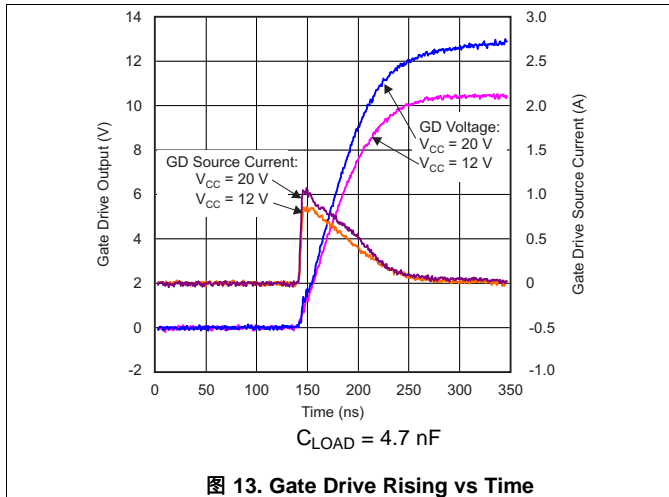
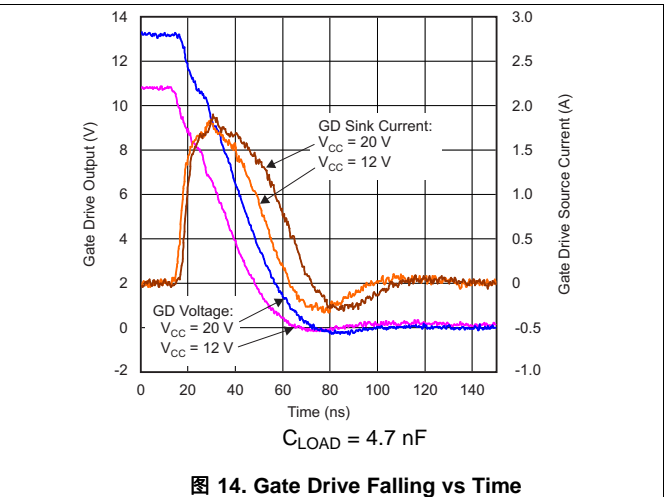
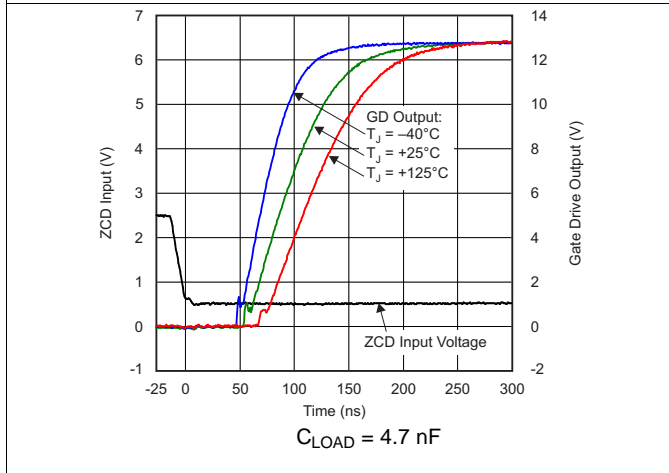
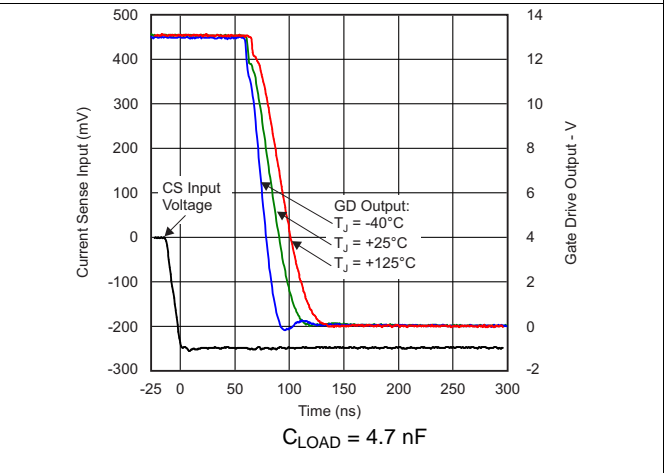

图 13. Gate Drive Rising vs Time
图 14. Gate Drive Falling vs Time
图 15. Gate Drive Rising and Delay From ZCD Input vs Time
图 16. Gate Drive Falling and Delay From CS Input vs Time
(2) Refer to 图 13, 图 14, 图 15, and 图 16 of the Typical Characteristics for typical gate drive waveforms.
(3) ZCD blanking times are ensured by design.